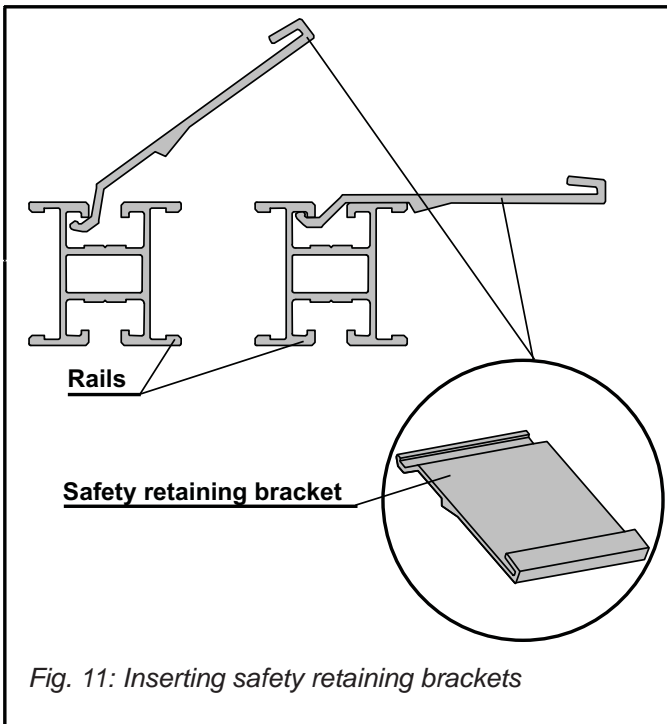

Fig. 11: Inserting safety retaining brackets
- Shift safety retaining brackets (Fig. 11) in the bottom rail, 2 brackets per collector.